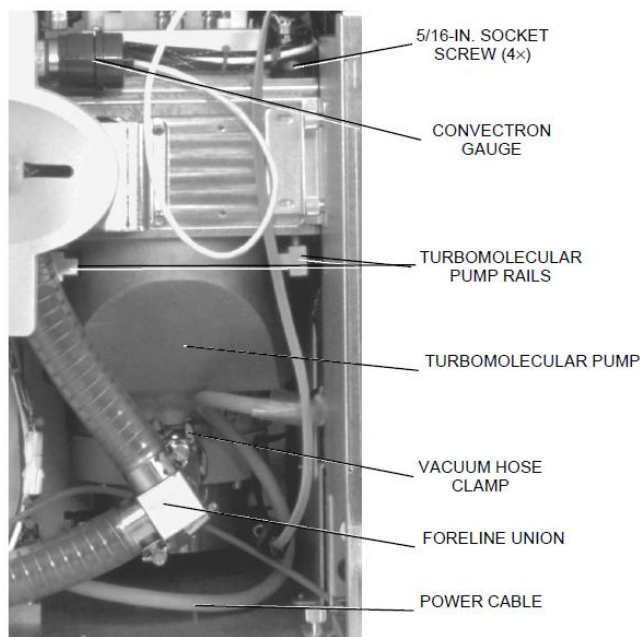

Figure 17. Turbomoleçuřlar pump.
- 8.5.1.4. Loosen the red hose clamp that secures the vacuum hose to the turbomolecular pump (See Figure 17). Disconnect the vacuum hose from the turbomolecular pump. Remove the centering ring from the vacuum hose.
8.5.3. Reinstall the turbomolecular pump as follows (see Figure 17):